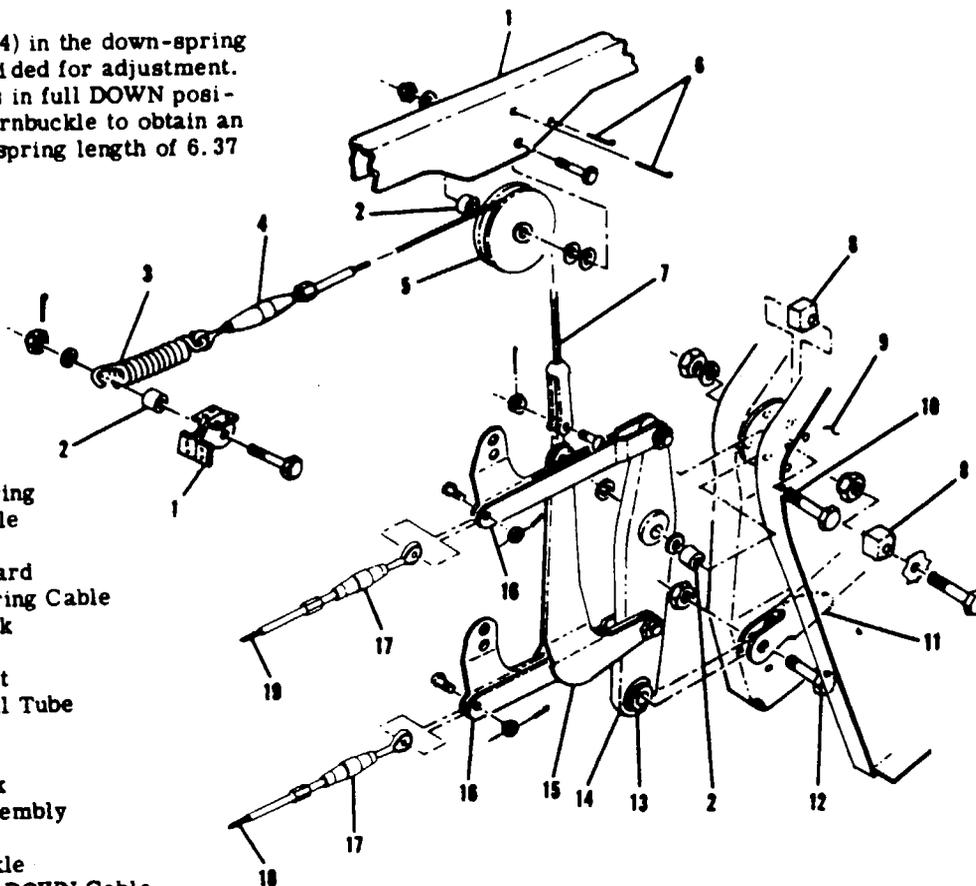

Figure 8-3. Elevator Bellcrank Installation
8-8. BELLCRANK. (Refer to figure 8-3.)
- b. Remove safety wire and relieve cable tension at turnbuckles (9).
- c. Disconnect cables at control column arm assemblies (3) and disconnect balance weight (5).
- d. Disconnect cables at bellcrank links (index 16, figure 8-3).
8-14. RIGGING. (Refer to figure 8-3.)